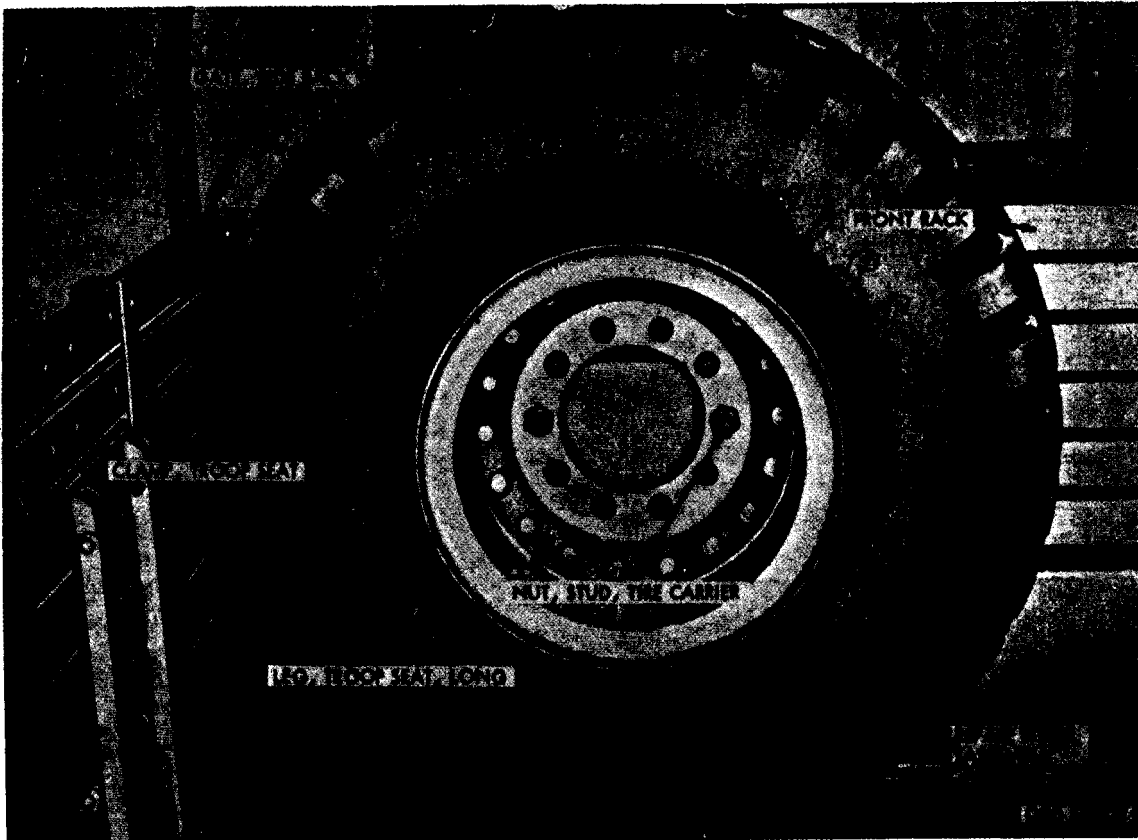

Figure 62. Spare wheel mounted
to the body. When lowered it provides a tailgate step assembly for mounting the cargo area. The spare wheel is mounted on a bracket inside the cargo body at the front end. A side rack gate allows removal of spare wheel assembly. (fig. 62)
f. Front Rack. Raise front rack (fig. 62) up to free ends of tubes from sockets and remove front rack.
g. Side Rack Assemblies. Fold right and left troop seats against side racks (fig. 62) and engage troop seat clamps. Raise side racks up to free ends of tubes from sockets and remove side racks and troop seats as assemblies. The left side rack assembly includes the side rack gate.
k. Spare Wheel Assembly. Remove two tire carrier stud nuts (Fig. 62) located inside front end of cargo, releasing spare wheel. A removable side rack gate assembly in the cargo body is provided for convenience of removing spare wheel assembly from body.
c. Side Rack Assemblies (Fig. 62). Apply a light film of oil to tubes. Position tubes in body sockets and slide side rack into place.
d. Front Rack (Fig. 62). Apply a light film of oil to tubes. Position tubes in body sockets and slide front rack into place.
e. Side Rack Gate (Fig. 62) With the left side rack and front rack in place, slide rack gate in channel on side rack and hook into front rack.
g. Spare Wheel Carrier. Position wheel and tire assembly to the two hinge-clamp studs and install two tire-carrier stud nuts (fig. 62).